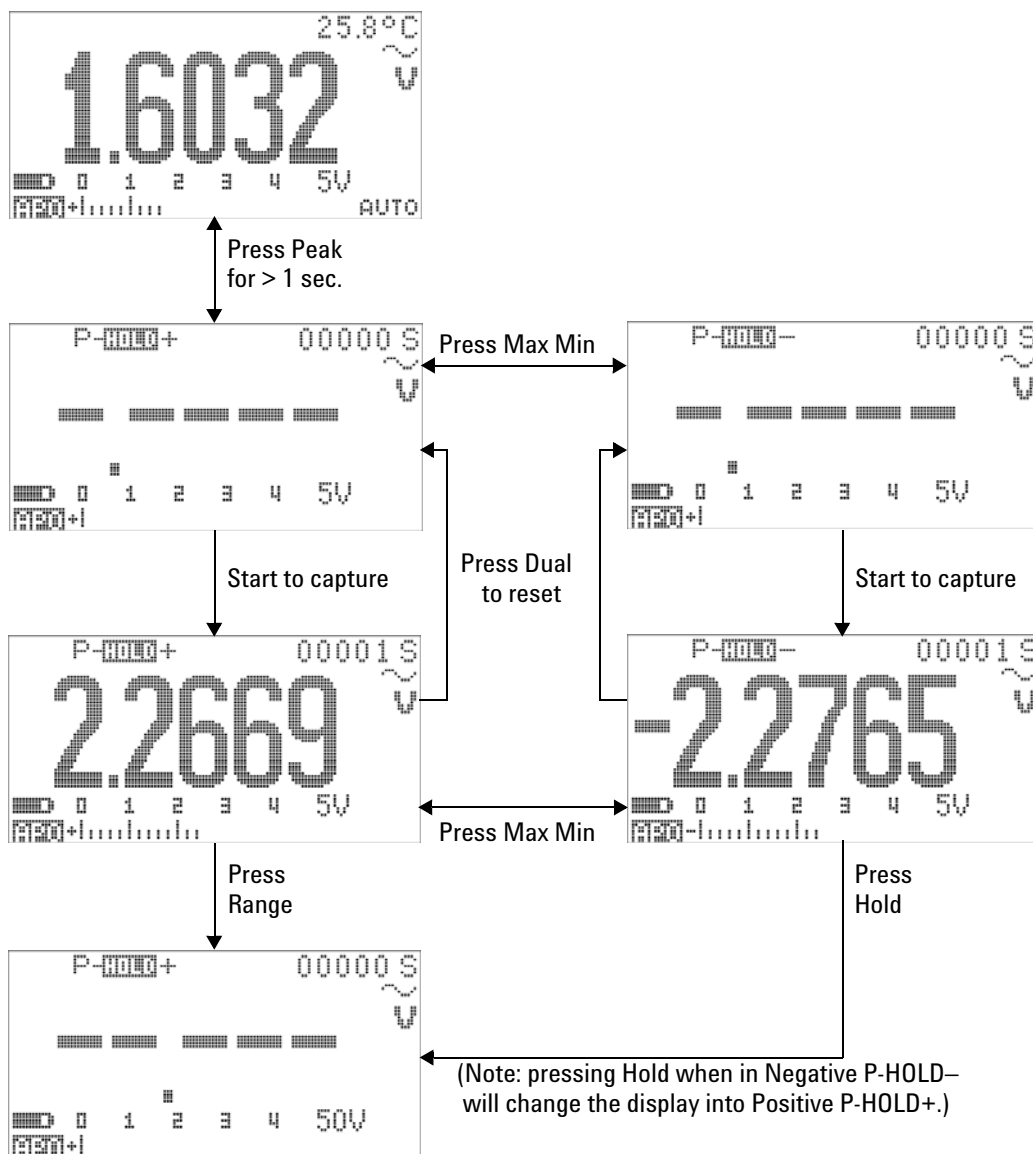

Figure 3-7 1 ms peak hold mode operation
- 4 In the measurement example shown in Figure 3-7 on page 70, the crest factor will be $2.2669/1.6032 = 1.414$.